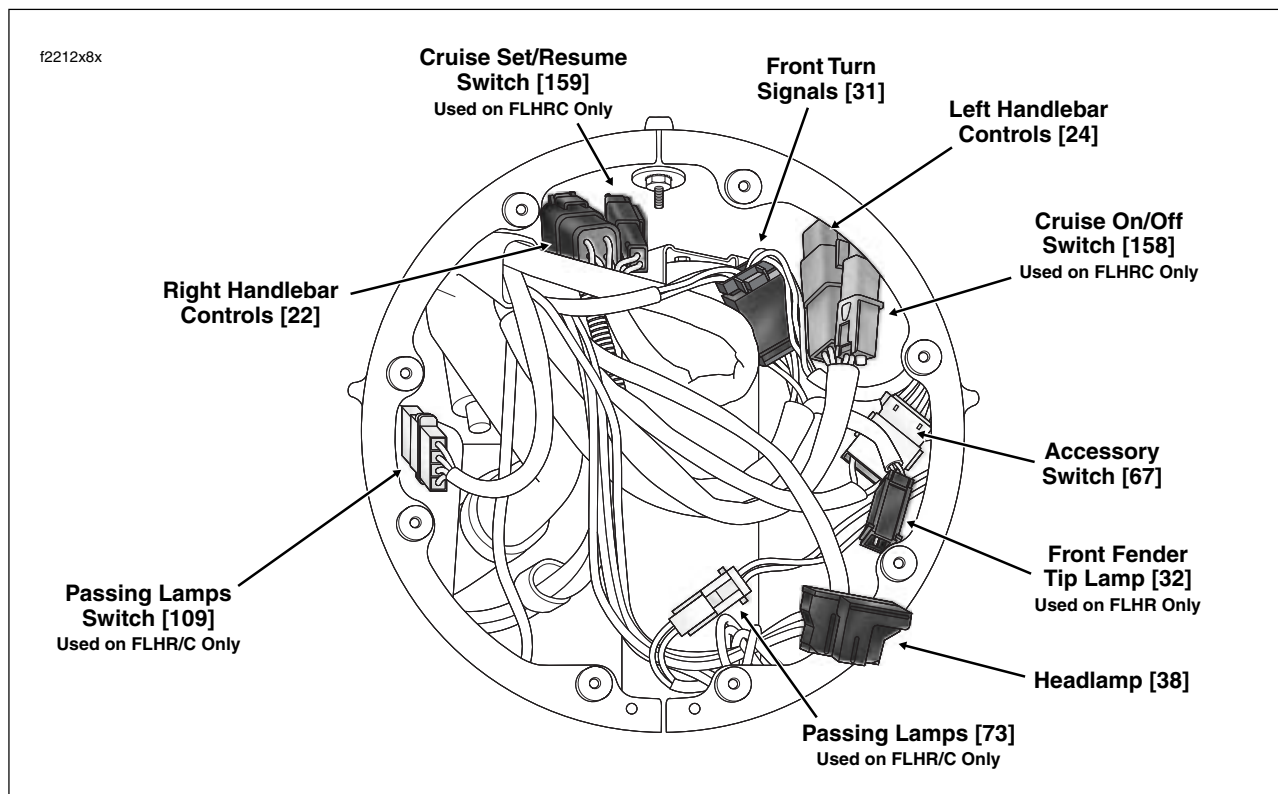

Figure 8-146. Headlamp Nacelle Connectors (FLHR/C/S)
4. See Figure 8-146. Reaching inside the headlamp nacelle, disconnect main harness as follows: